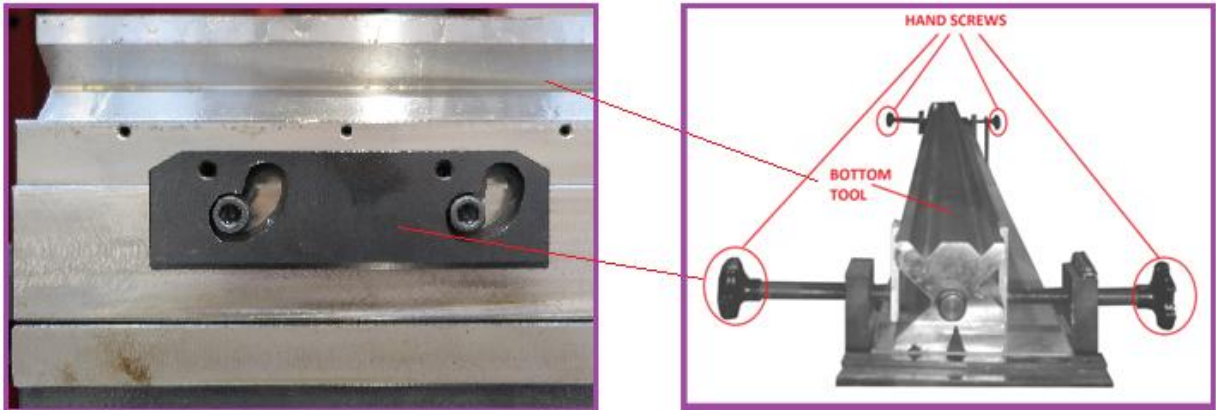

Figure-35: Changing the bottom tool1.3. Taype3.
The bottom tool is fixed in its place as seen in (See Figure-35) below. In order to change the bottom tool, proceed the followings;
1. Loosen up the hand screws in both sides of the machine (See Figure-35).